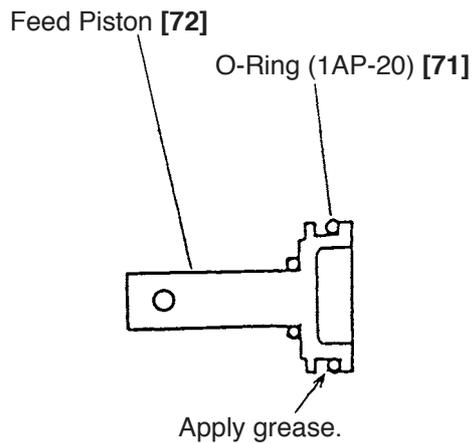

Fig. 23
- As shown in Fig. 23, position the Feed Piston [72] and the O-ring (1AP-20) [71] on the right side, and apply grease to the groove section.